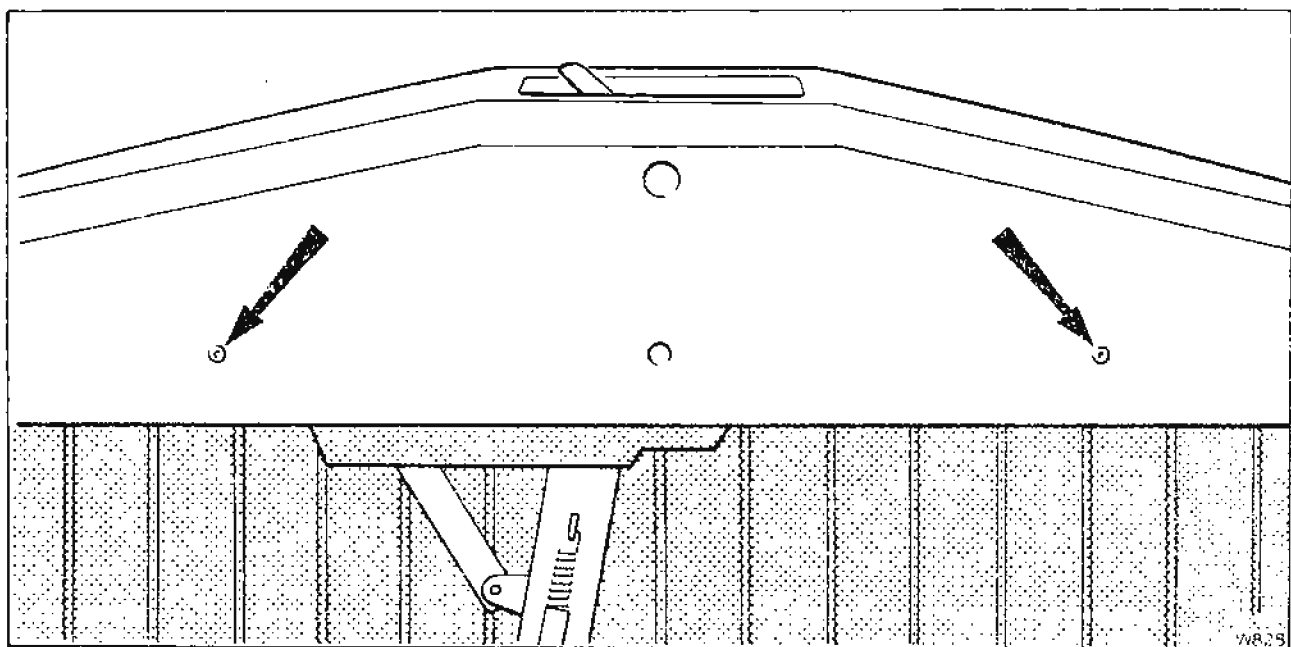

Fig. 2
5. Using a 3 mm (0.125 in) diameter twist drill, remove the two rivets securing the top of the vane assembly (see fig. 2). Remove the three setscrews securing the bottom and lift the complete vane assembly out of the shell.